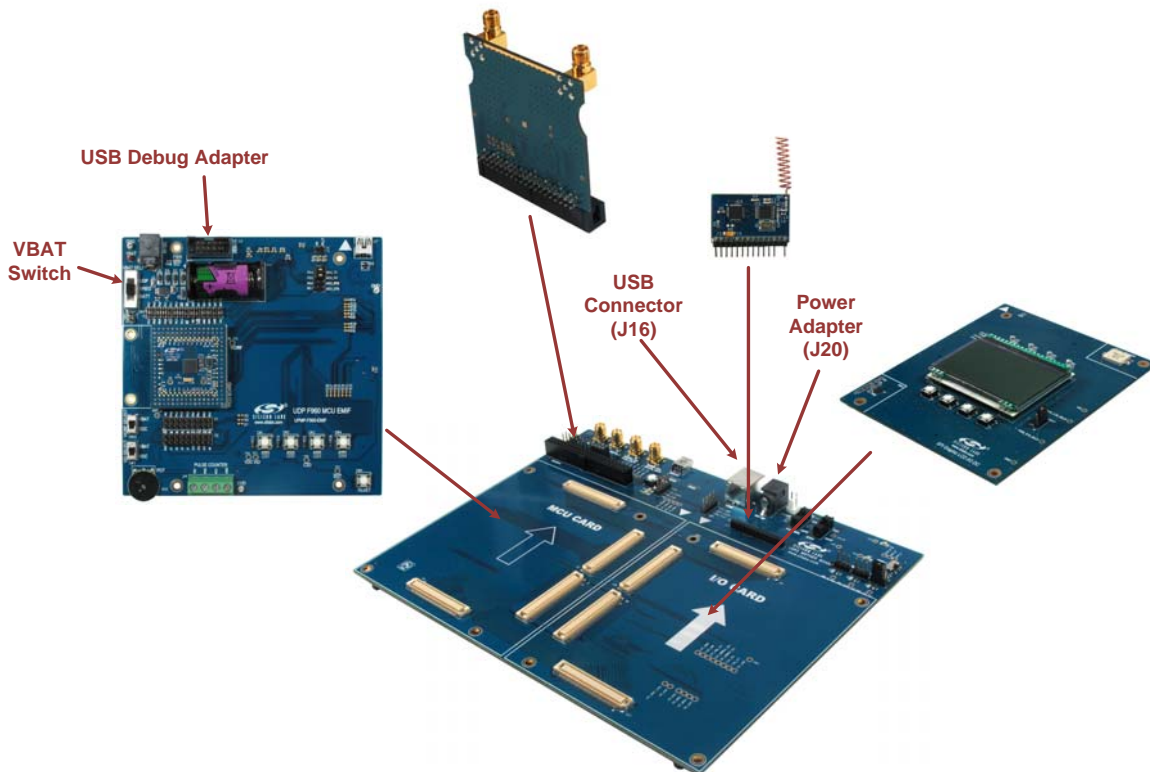

Figure 3. Hardware Setup Using the Unified Development Platform
Refer to Figure 3 for a diagram of the hardware configuration when using the MCU card with a UDP motherboard.
- **CP210x Drivers**—Virtual COM Port (VCP) drivers for the CP210x COM interface. More information on this installation process can be found in Section Figure 3.